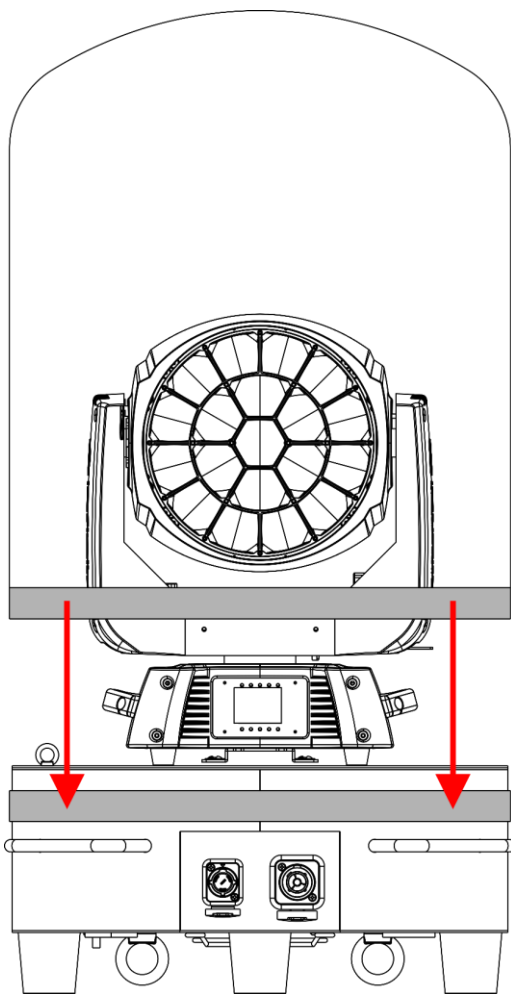

Fig. 17
- 01) Put the plastic sleeve over the device (Fig. 17).